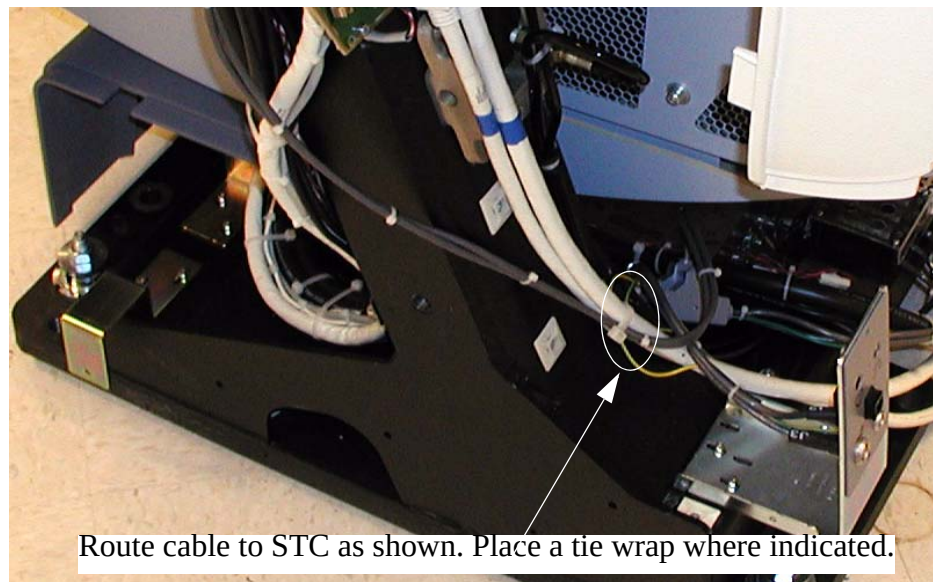

Figure 2-10 STC Cable Routing
- 2.) Tie wrap the STC connection cable as shown in Figure 2-10, on page 28. Be sure tie wrap is far enough down on the two cables to allow the base side cover to clear.